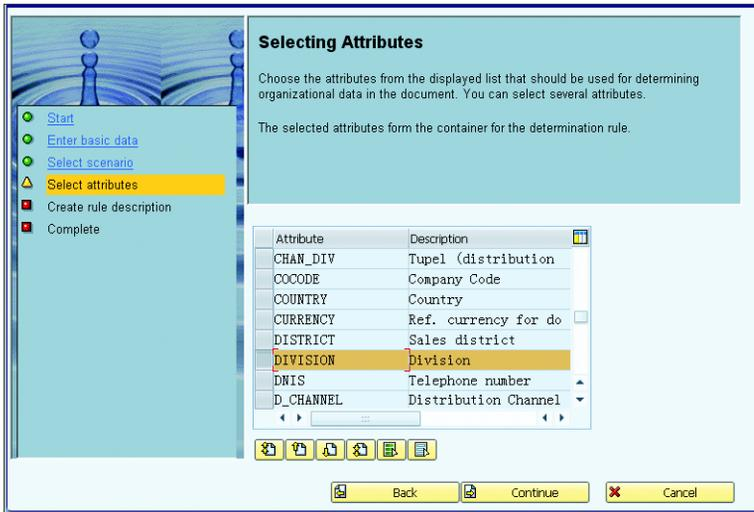

Figure 2.20 Organization Determination from Organization Model – Select Attributes
4. Choose from the attributes listed. As shown in Figure 2.20, the DIVISION attribute is selected. The organization data determination is based on the business partner division. Click CONTINUE.